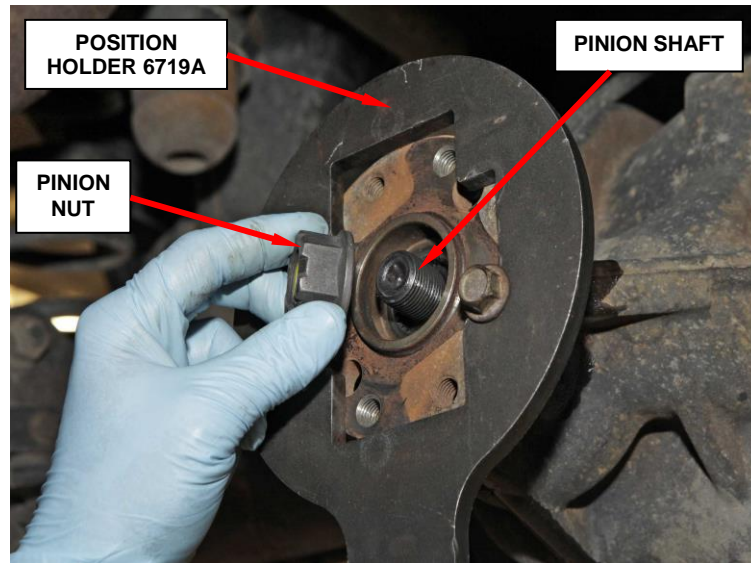

Figure 28 – Install New Pinion Nut
26. Install a new pinion nut onto the pinion shaft (Figure 28).